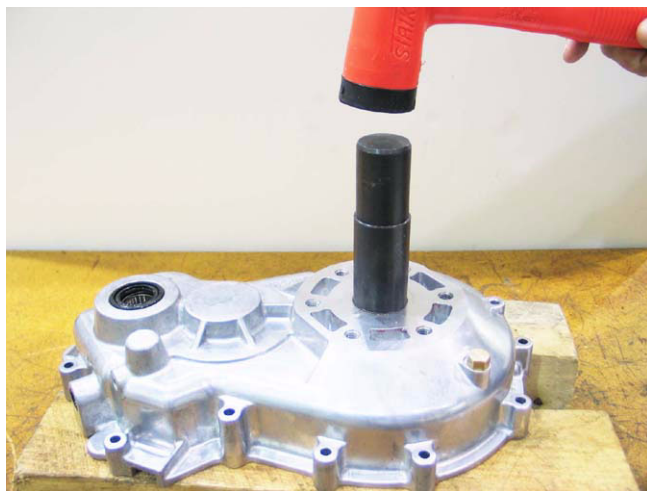

Figure 12.18
- Protect seal lips during shaft installation, and press them flush with the housings using a seal driver. See Figure 12.18.